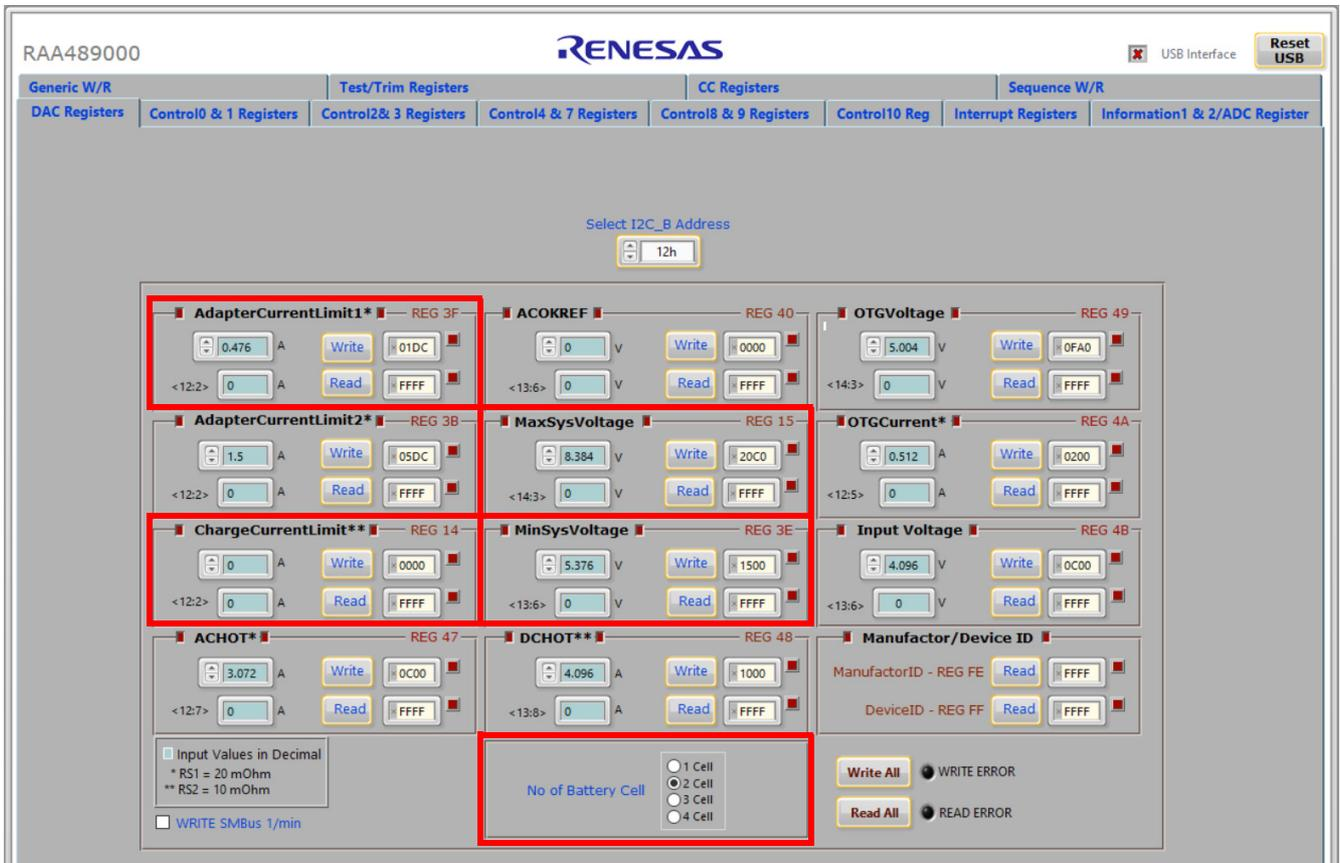

Figure 8. RAA489000 GUI
The number of battery cell and adapter current limit default values can be configured with a standard 1% 0603 resistor (R23a) from the PROG pin to GND. The *PROG Pin Programming Table* in the RAA489000 datasheet shows the programming options. After the default number of cells in series is set, the default values for MaxSystemVoltage and MinSystemVoltage are set accordingly. These values can also be changed through the SMBus control registers, which are implemented with the Renesas GUI shown in Figure 8. The three LEDs indicate the PROCHOT, ALERT_B, and ALERT_C status, respectively. For more details about the functions of these three pins, see the RAA489000 datasheet.
4. Turn on the power supply. Turn on the battery emulator and open the Renesas RAA489000 GUI (Figure 8).